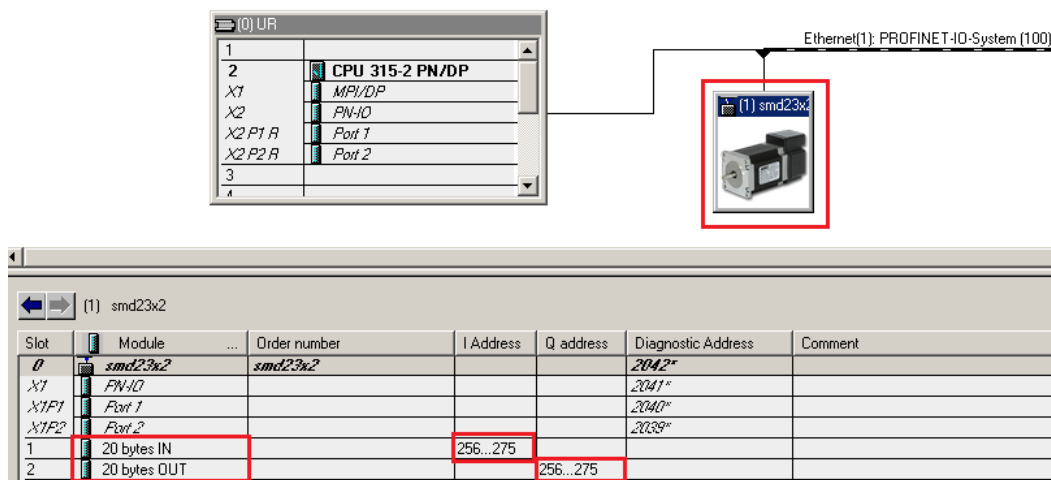

Figure 3: I/O area address range of the SMD23x2
- a) The **LADDR** parameter selects the PROFINET I/O module from which data will be read. As shown in the Figure 3, the starting address for the SMD23x2 input area is 256, which is 100hex.
- b) The **RECORD** parameter defines the target **Data Block (DB)**, which will contain the SMD23x2 Input Data that is read by this function. Set the pointer to the beginning of the data block (P#DB1.DBX0.0) and define the data length (BYTE 20).
- a) The **LADDR** parameter selects the PROFINET I/O module to which data will be written. As shown in the Figure 3, the starting address for the SMD23x2 output area is 256, which is 100hex.
- b) The **RECORD** parameter defines the target **Data Block (DB)**, which will contain the SMD23x2 Output Data to be written to the SMD23x2 drive by this function. Set the pointer to the beginning of the data block (P#DB2.DBX0.0) and define the data length (BYTE 20).